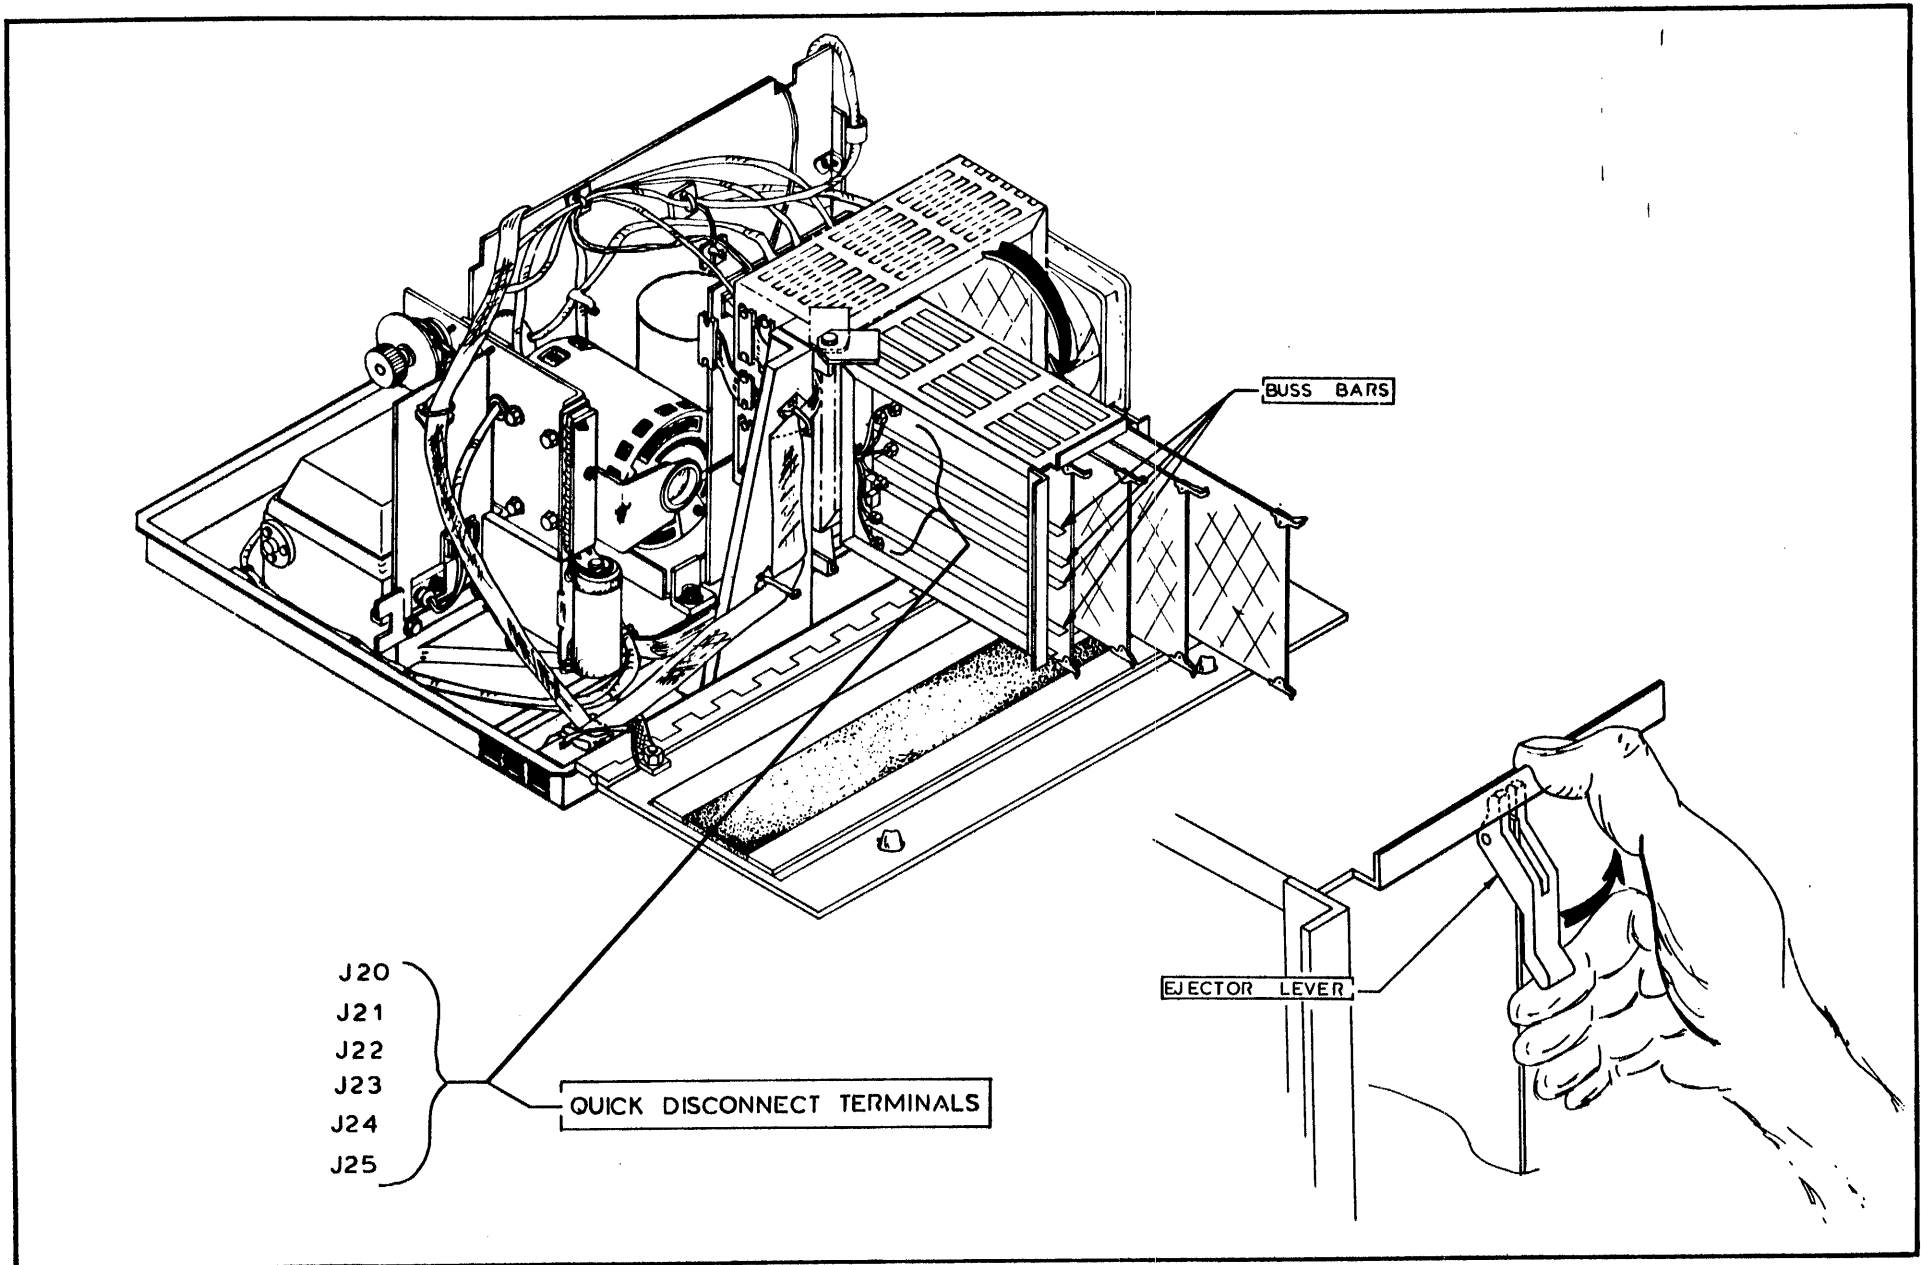

Figure 77 Replacing Circuit Boards in the Card Cage
To remove either Logic PCBA, lift its ejector levers and release the PCBA from its connectors; then withdraw the PCBA from the card cage. (Figure 77 illustrates this procedure.)
- b. Disconnect the six wires terminated with quick disconnect terminals (J20 through J25) from the terminals on the PCBA (Figure 77).